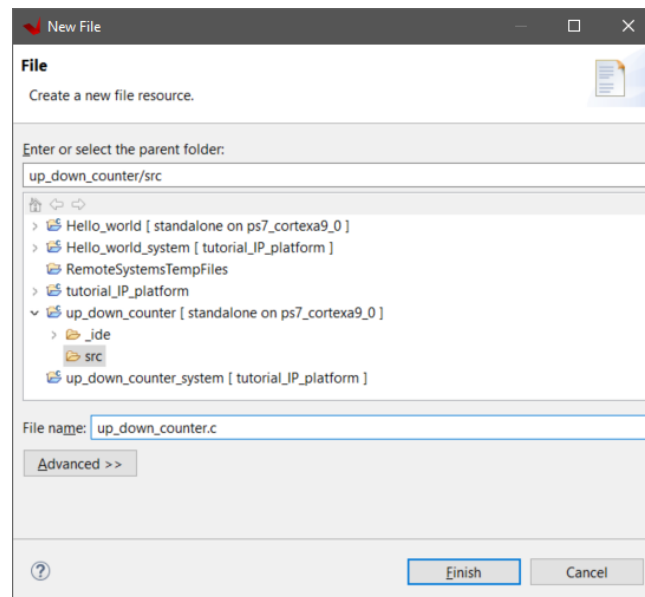

Figure 31
9. In the new window, type **up_down_counter.c** in the **File name:** field, leaving the other fields unchanged, and click **Finish** (Figure 31)